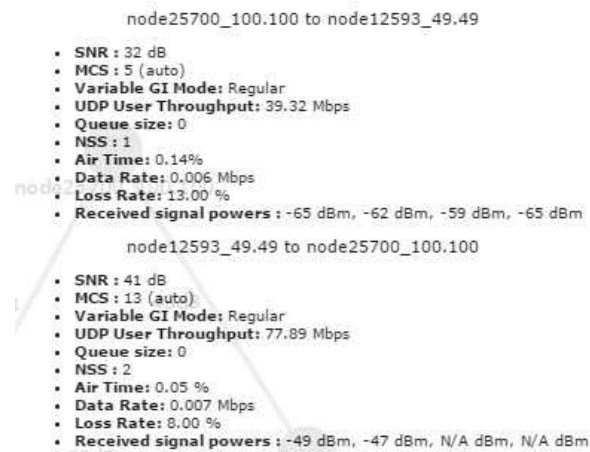

Figure 60 Link Characteristics
- **Link Characteristics** – By simply rolling the mouse over any link in the network, users can view key operating characteristics of that link. **Figure 60 Link Characteristics** shows an example of this for the link between ‘node25700’ and ‘node12593’. The characteristics shown are: